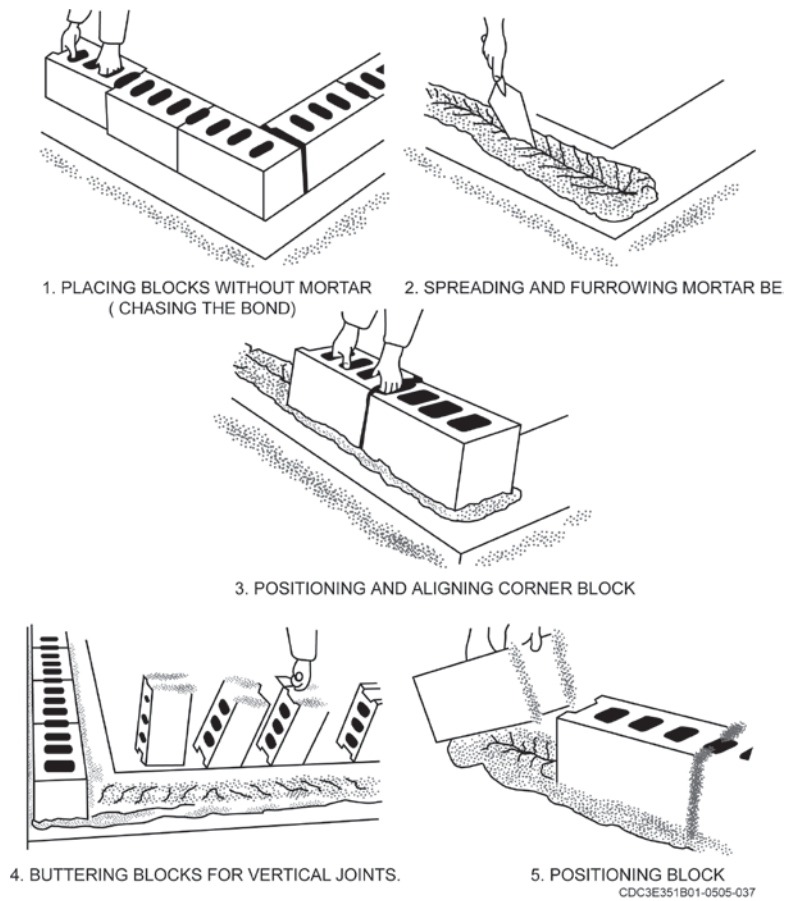

Figure 2-5. Laying block.
Once the corners are located, you should “chase the bond,” or lay out the blocks. You do this by placing the first course of blocks without mortar (fig. 2-5, view 1). Snap a chalk line to mark the outside walls of the building to align the blocks accurately. Then use a piece of material ¾-inch-thick to properly space the blocks. This helps you get an accurate measurement and to plan for any cuts.
1. Remove all the loose blocks and spread a full mortar bed to begin laying the first course. Spread and furrow the mortar bed with a trowel to ensure plenty of mortar under the bottom edges of the first course (fig. 2-5, view 2).
2. Lay the corner block first. Make sure that it is carefully positioned and aligned (fig. 2-5, view 3).
3. Lay the remaining blocks in the first course with the thicker side (web) up to provide a larger mortar-bedding area. For the vertical joints, apply mortar only to the block end. To speed up the operation, place several blocks on end and butter them all in one operation (fig. 2-5, view 4). Make the joints ¾-inch-thick. Then place each block in its final position, and push the block down vertically into the mortar bed and against the previously laid block. This ensures a well-filled vertical mortar joint (fig. 2-5, view 5).